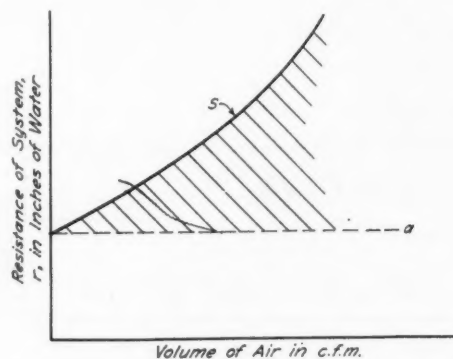

Fig. 2
We now have a system which will have a constant resistance on the discharge side of the fan, but that part of the system on the inlet side of the fan will follow the relation given in Equation (1). We can draw a composition system characteristic as illustrated in Fig. 2.